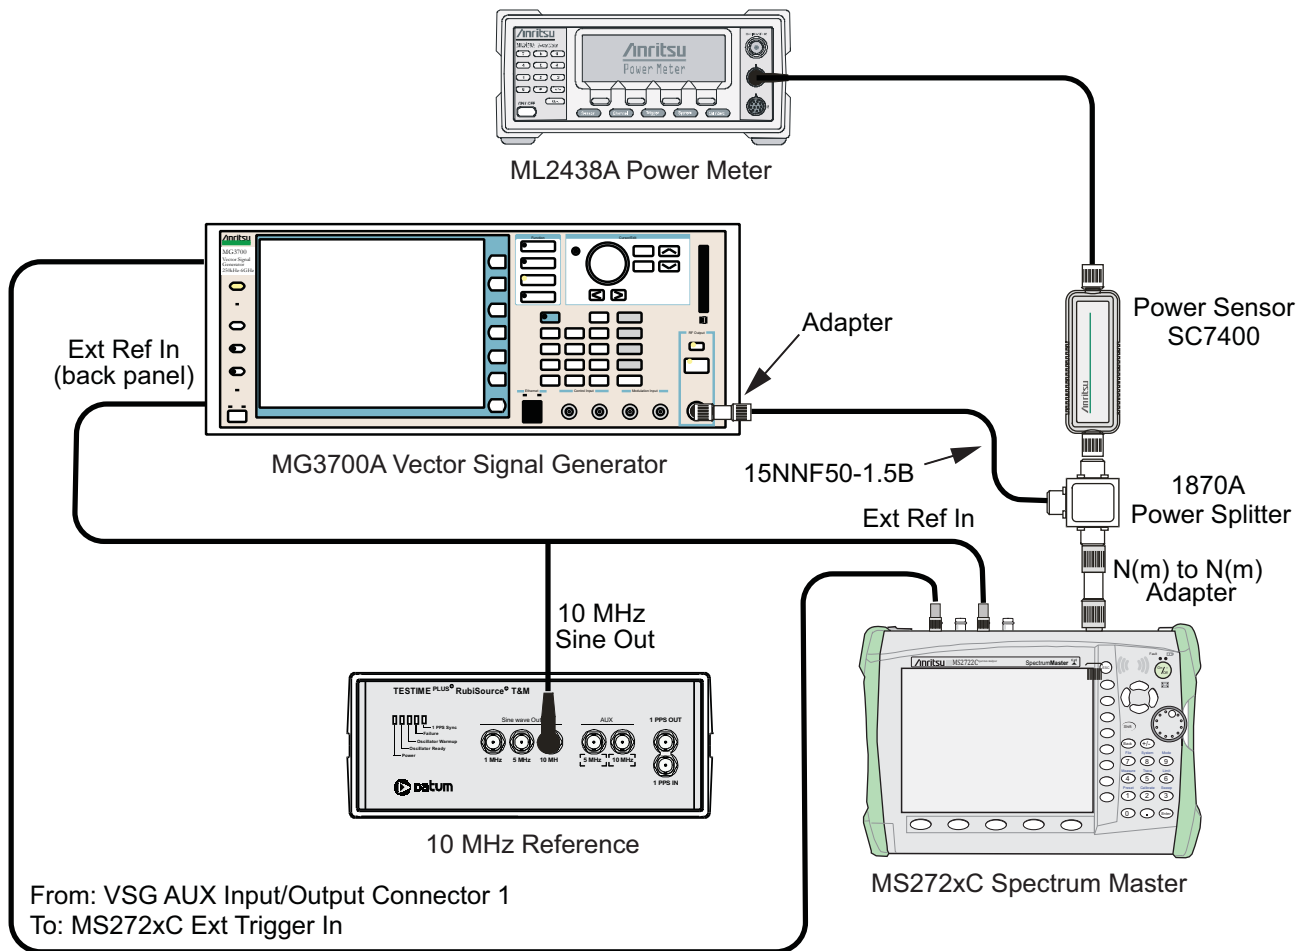

Figure 3-3. CDMA Signal Analyzer, Test Setup
3. Connect the equipment as shown in Figure 3-3.